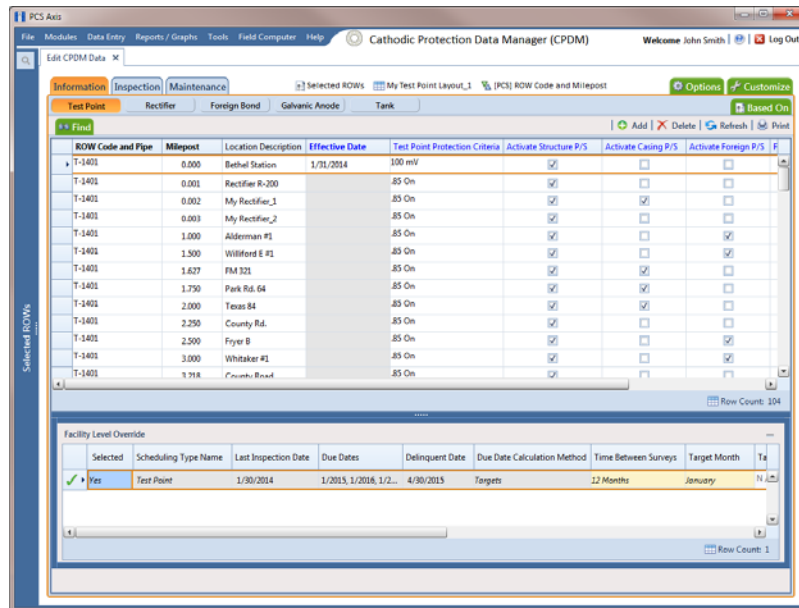

Figure 7-8. Add Record
- e Provide other facility data in the grid as needed, such as *Permanent Comments* (Figure 7-8, page 219).